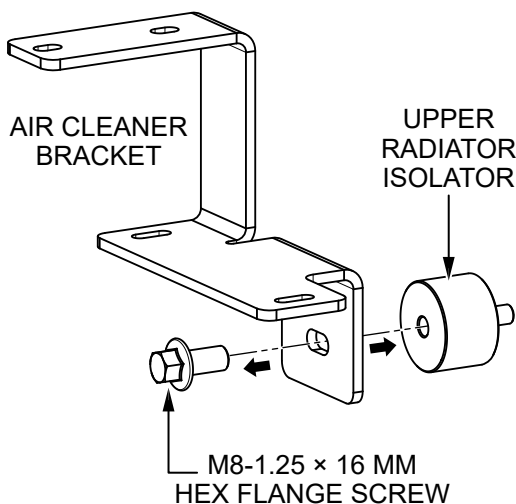

Figure 10. Remove Upper Radiator Isolator
10. Remove the **M8-1.25 × 16 mm hex flange screw** securing the upper radiator isolator (Figure 10) to the air cleaner bracket. Save the isolator and hardware for later.